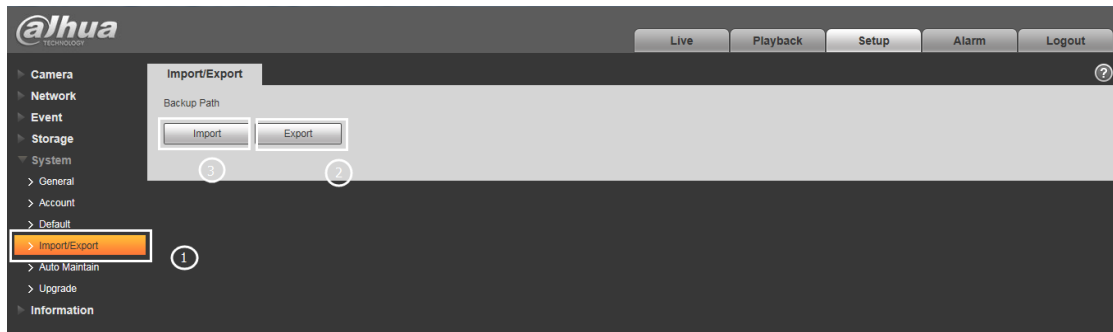

Figure 13-1
1) Enter 'System-Import/Export' as Figure 13-1